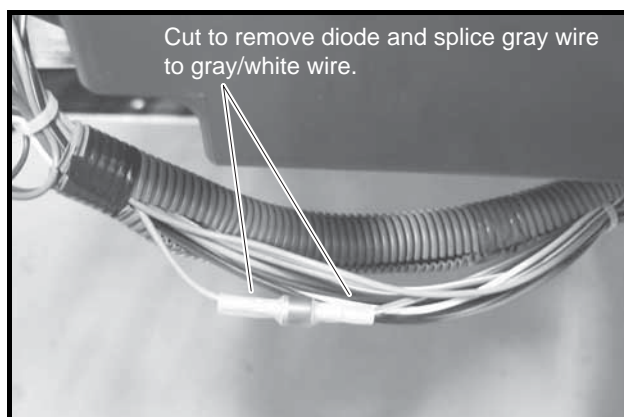

Figure 13-15 Remove Diode
1. Disconnect the two-pin connector (1) at the Tow/Run switch (**Figure 13-15, Page 13-18**).
2. Connect the IQ main dropout harness (2) between each end of the two-pin connector.